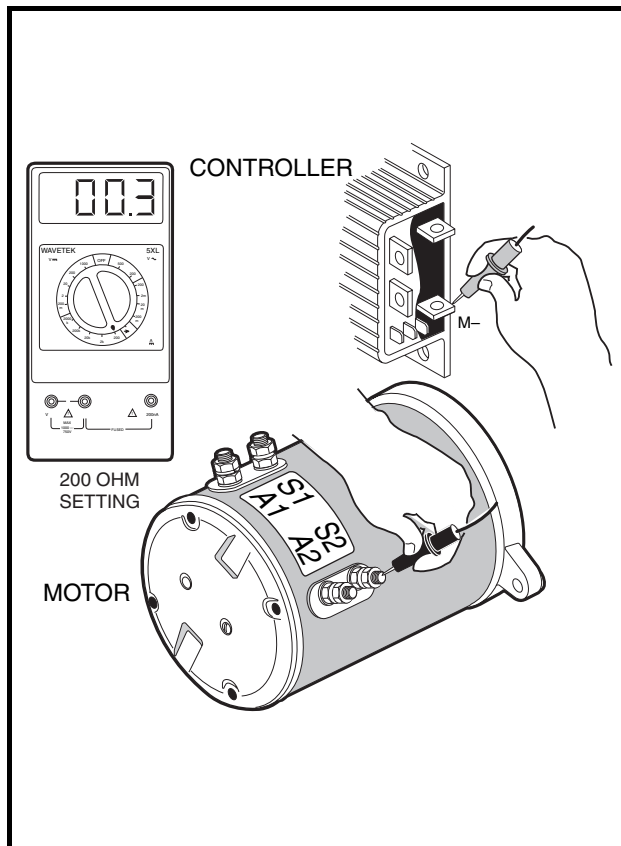

Figure 11-21 Forward/Reverse Test (Reverse Position)
4. With Forward/Reverse handle in REVERSE, place red (+) probe on speed controller M– terminal and place black (–) probe on S2 motor terminal. Meter should indicate continuity (**Figure 11-21, Page 11-20**).